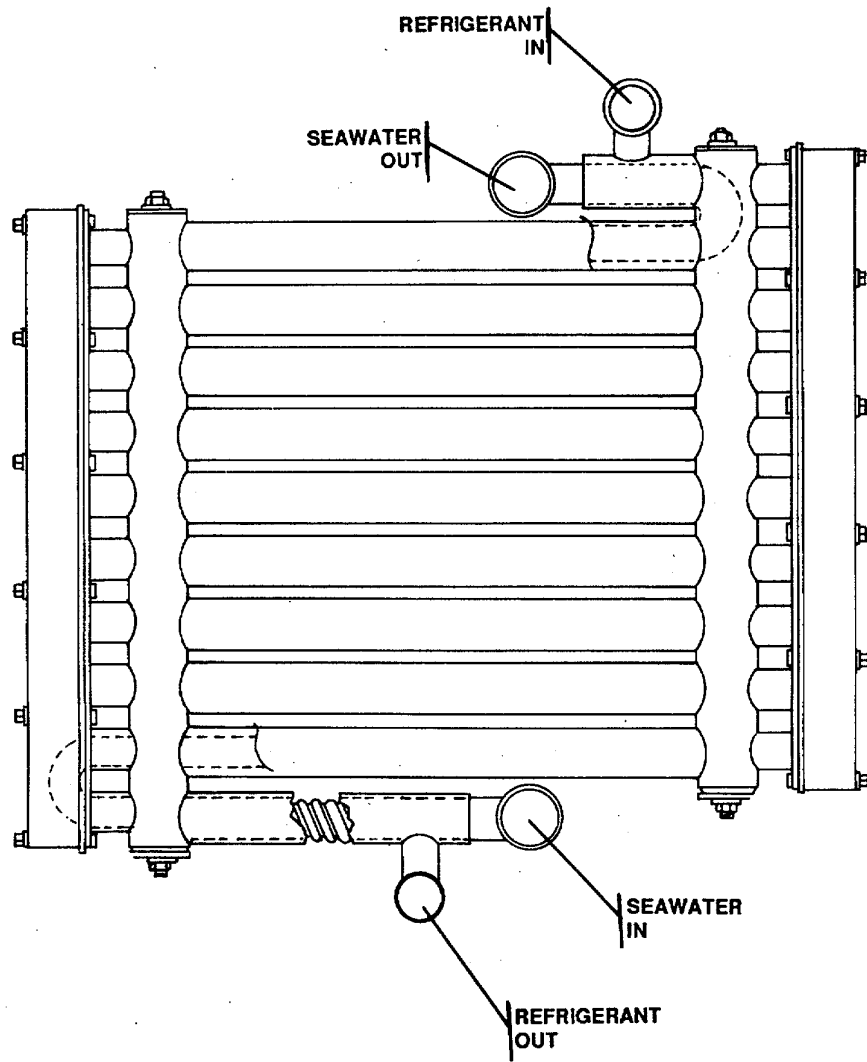

Figure 1-4. Water Cooling Process in Condenser.
- (1) The condenser serves two important functions:
- (2) The heat removal and condensing processes take place by a water cooling process. The refrigerant vapor is passed through an outer shell of the condenser tubes and cool seawater passes through an inner shell, or tubing (FIGURE 1-4). The seawater supplied to the condenser is at a lower temperature than the temperature of the refrigerant vapor. Heat from the refrigerant is transferred to the seawater through the inner tubing walls. The seawater then carries the heat from the condenser through a discharge or drain line. The condenser removes enough heat to change the refrigerant from a vapor to a liquid.